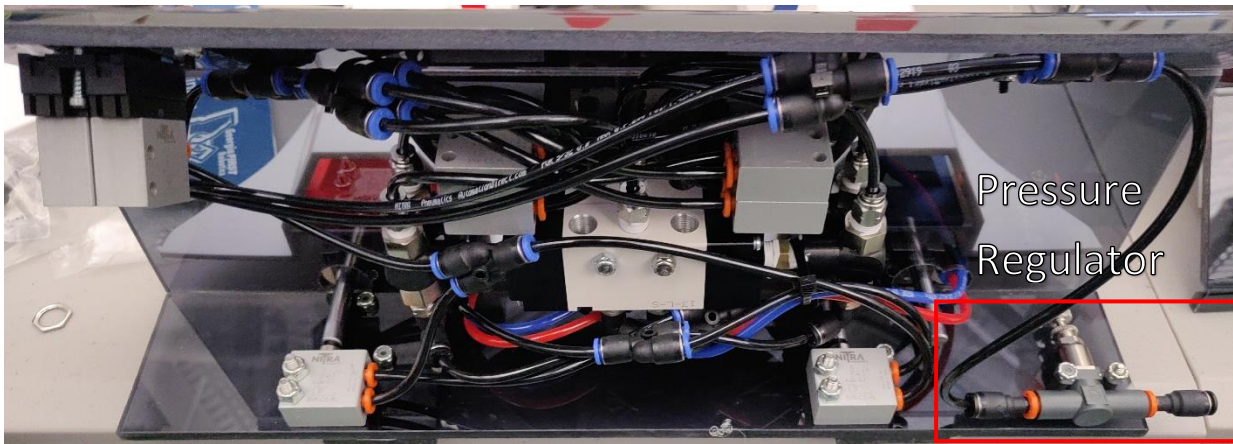

Figure 1
1. Output of pressure regulator set to 30 PSI (2 BAR). See Fig 1 for component.